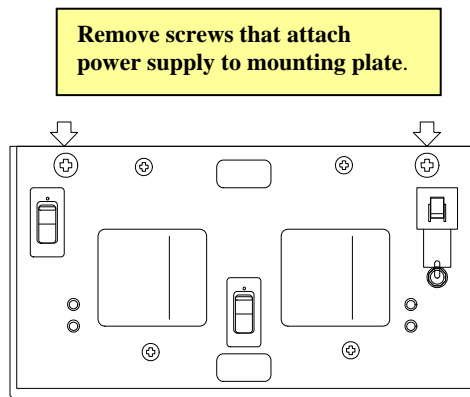

Figure 2: Power Supply Mounting Plate
Step 1: Remove the two screws that attach the power supply to the back panel mounting plate (Figure 2).
Step 3: Screw the back panel mounting plate to the wall using the three holes in the center of the plate (Figure 2). Ensure that a 1/8" gap is maintained between the wall and the plate to allow for power supply tangs to slip into tee slots.